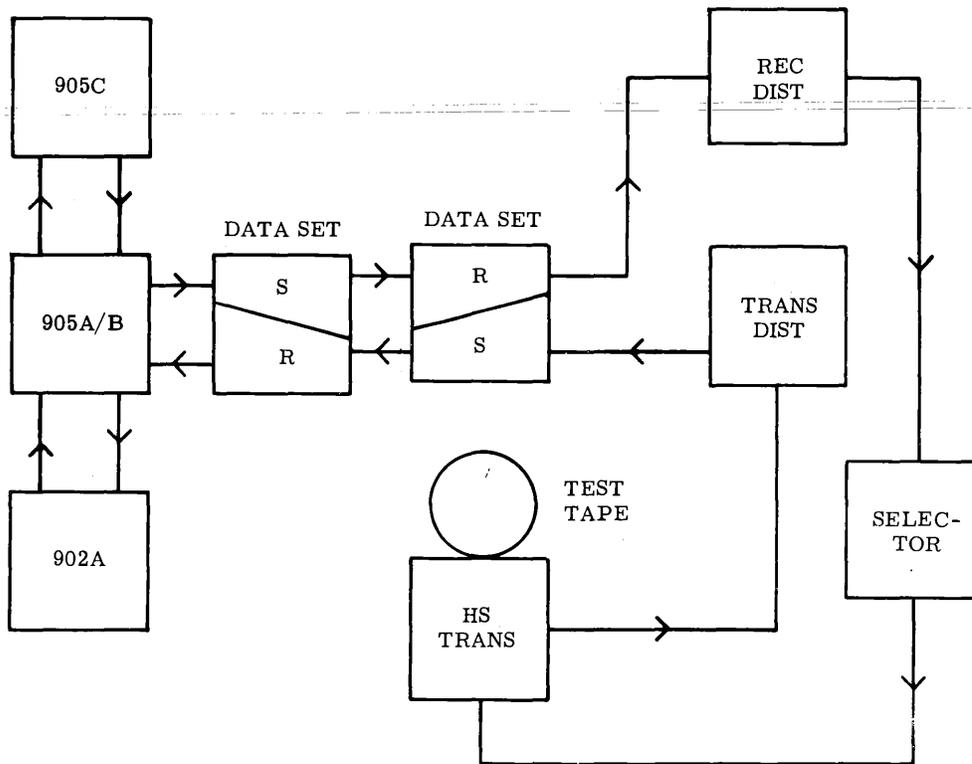

Figure 7 - Test Equipment Setup for Checking Errors in Sending Test Tape from High Speed Transmitter
4.27 Using the test setup shown in Figure 7, a bit by bit error check can be made. Refer to the appropriate 905A/B data test set BSP section.